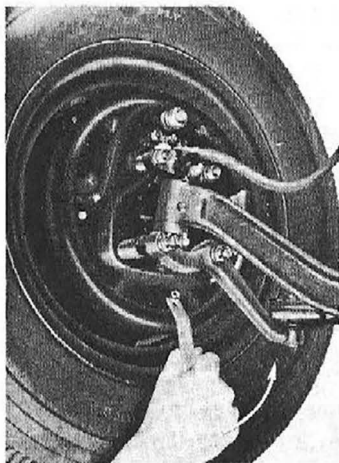

Fig. 53—Adjusting Front Brakes
3. Remove adjusting hole covers from flange plate on all four wheels. Expand brake shoes by turning adjusting screw until a light drag is felt on the brake drum (fig. 53).